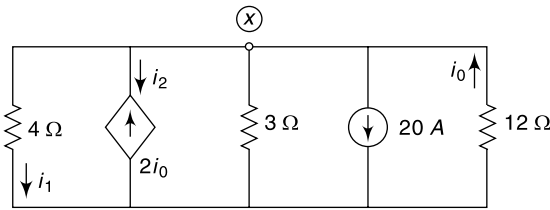

Fig. 4.194
33. Find i_0 , i_2 and the value of the dependent source for the network shown in Fig. 4.194. [Ans: 2 A, -4 A ; 4 A]